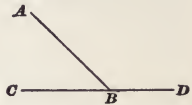

FIG. 7.
25. If one straight line meets another straight line at a point between its ends, as in Fig. 7, two angles, ABC and ABD , are formed, which are called **adjacent angles**.